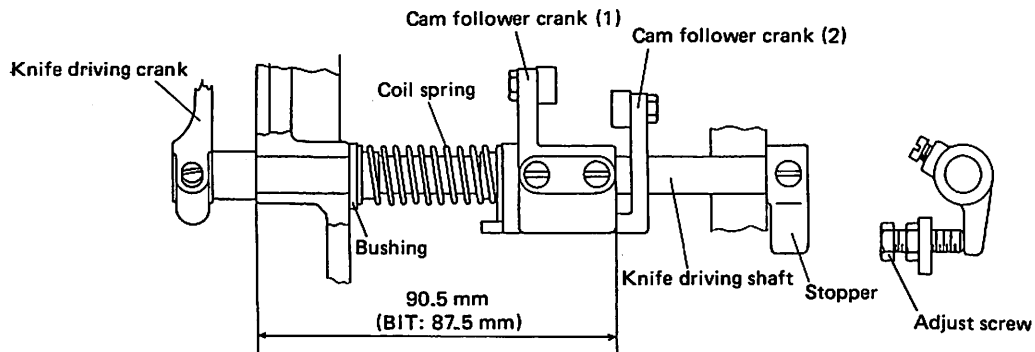
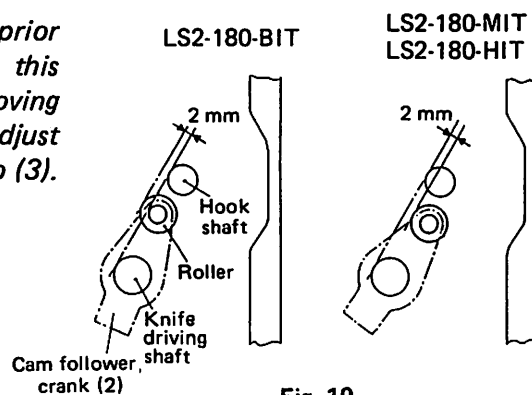

Fig. 6
Fig. 10
(1) Fig. 6 shows the standard setting position.
(2) During assembling, be sure to pass the knife driving shaft through the knife driving crank first.
(3) Fix the cam follower crank (1) to the recess of knife driving shaft at the position shown in Fig. 6.
(4) Fix the stopper to the recess so that the knife driving shaft can rotate smoothly without play in the axial direction.
Note: The standard position of cam follower crank (2) prior to the operation is shown in Fig. 10. When this position has been changed, for example, by removing the stopper plate, make adjustment with the adjust screw (Fig. 6) and then make adjustment in (1) to (3).